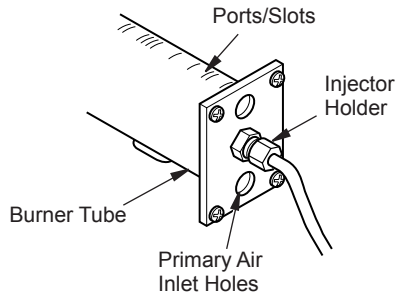

Figure 33 - Injector Holder On Outlet Burner Tube
2. Inspect burner, pilot and primary air inlet holes on injector holder for dust and dirt (see Figure 33).